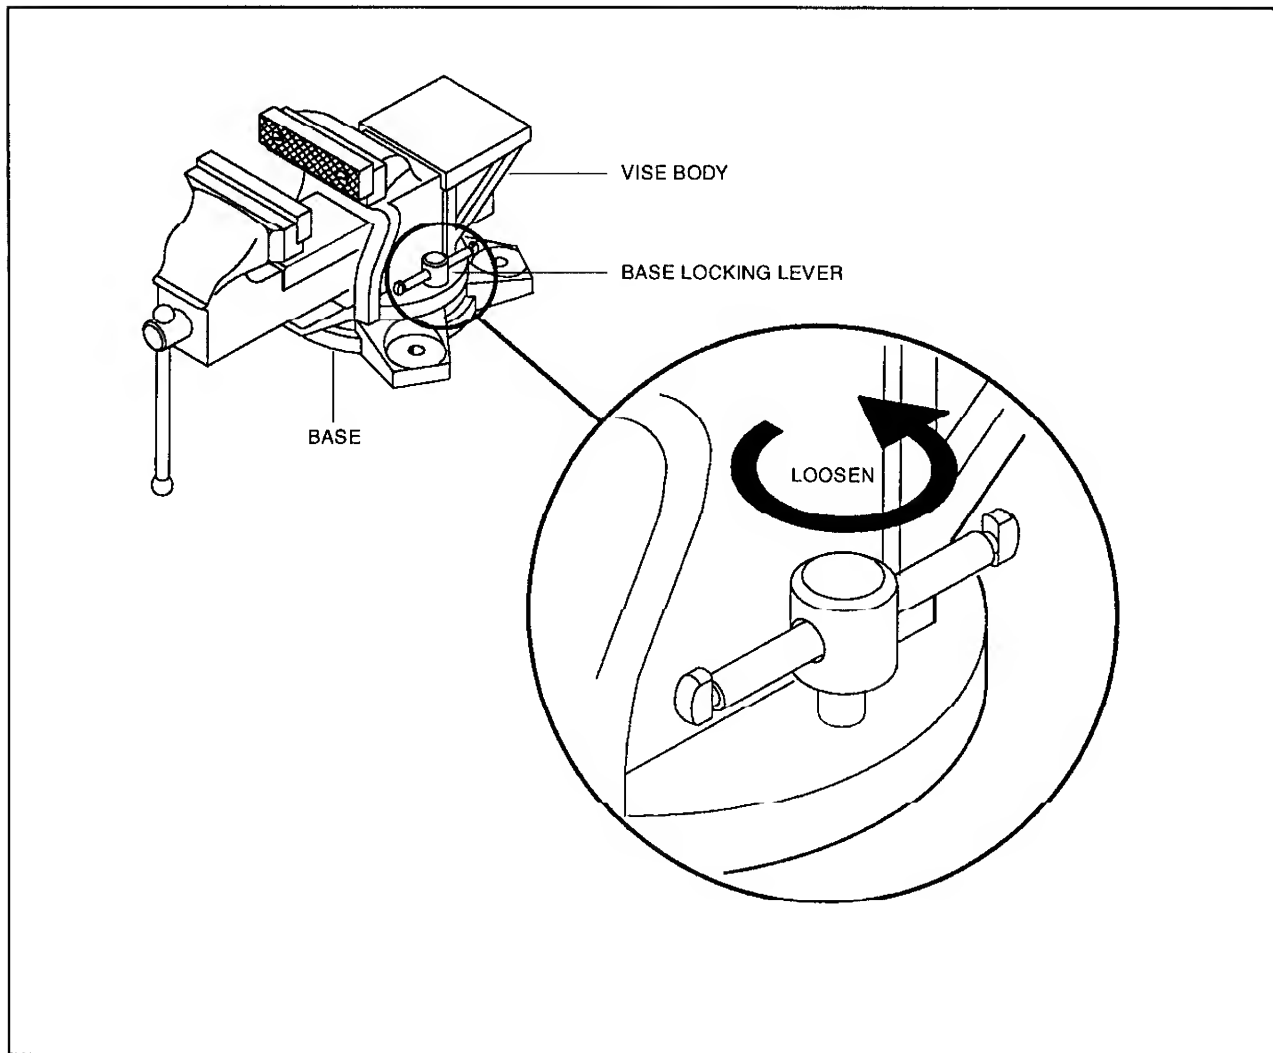

Figure 3. Loosen Base Locking Lever
Step 1. Locate the base locking levers (T-nuts), one to each side of the vise, as shown in Figure 3.
Step 2. Unlock each base locking lever by turning it counterclockwise as shown in Figure 3.